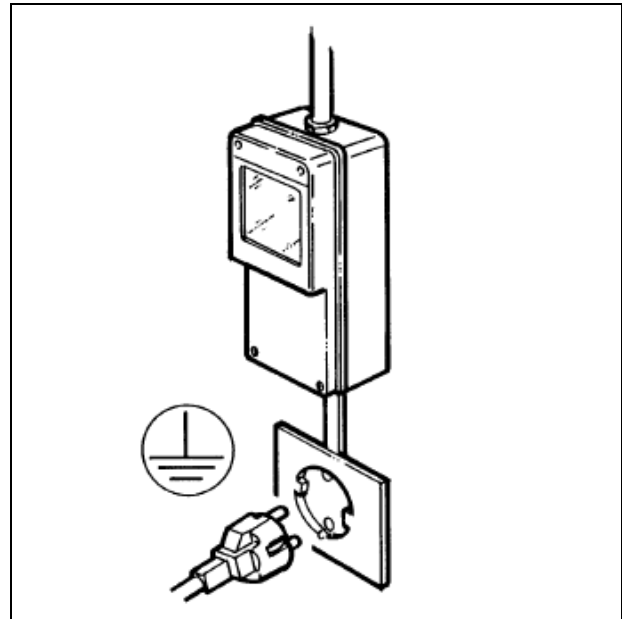

Fig. 3
- The machine's electrical safety is only guaranteed when it is connected to a suitable earth system, structured as provided by the national safety current regulations (fig.3). Therefore, the manufacturer cannot be held responsible for any damage due to failure of the grounding system of the machine.
- For a safe and correct installation, it is essential to provide a suitable socket controlled by a thermal cut-out switch whose contacts are at least 3 mm apart, in accordance with the current national safety regulations (see fig.3).